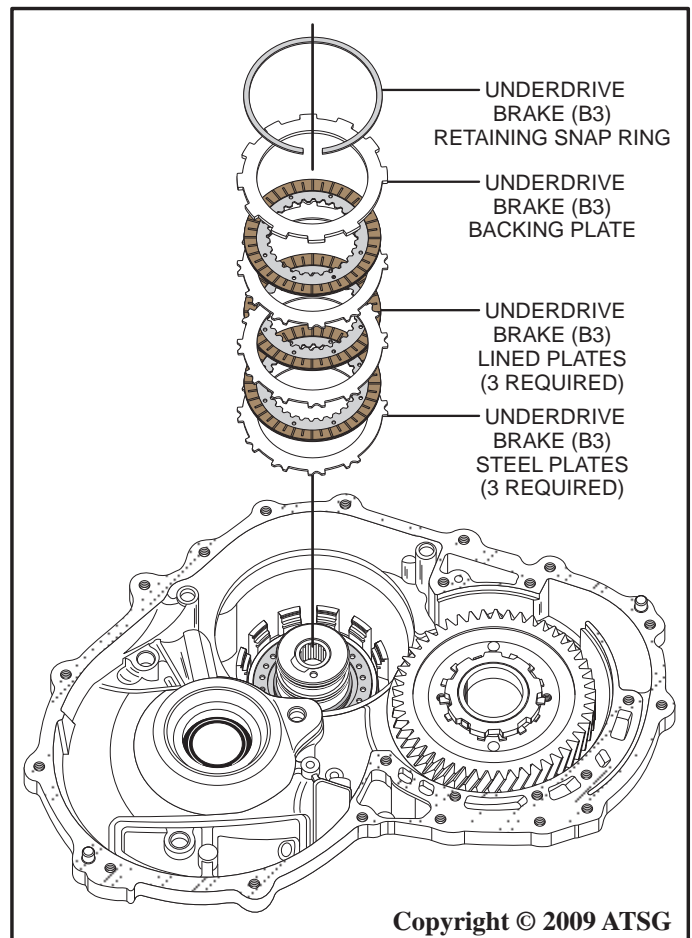

Figure 40
56. Using a screwdriver, remove the underdrive brake retaining snap ring as shown in Figure 40.
57. Remove the underdrive brake (B3) pressure plate as shown in Figure 40.
58. Remove the underdrive brake (B3) friction and steel plates as shown in Figure 40.